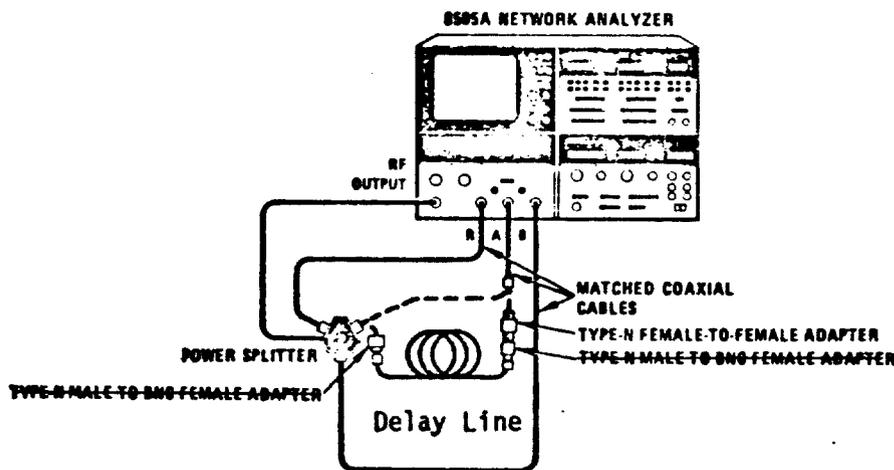

Figure A4-18. Test Setup to Measure Group Delay of Test Cable
- (1) Connect the "Test Cable" in A channel between the matched cable and the power splitter as shown in Figure A4-18.
- (2) Set 8505A controls as follows:
- a. Connect equipment as shown in Figure A4-18 with both matched cables connected to power splitter and ~~Test cable~~ with adapters not connected in circuit.